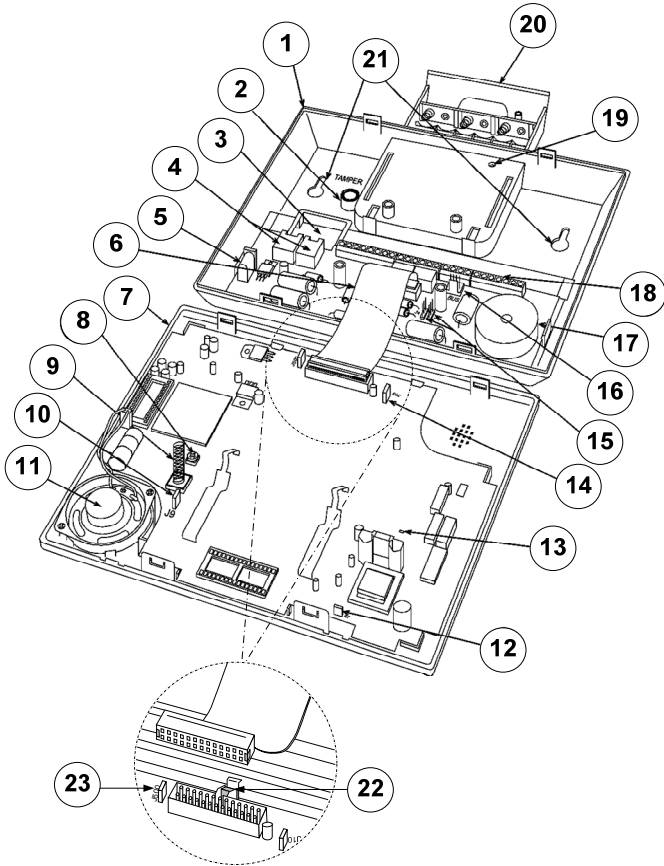

Figure 2-1: WisDom Internal components Layout
3. Pull the **WisDom** battery housing outward (See figure 2-1)
1. Connect the incoming telephone line to the **PHONE LINE** terminals or the optional plug-in jack RJ11 marked as U3 (see figure 2-1).
2. Connect any telephone on the premises to the **PHONE SET** terminals or the optional plug-in jack RJ31 marked as U2 - Line and Set (see figure 2-1).
The WisDom is equipped with a built-in sounder (see figure 2-1). If desired, an external bell or piezo sounder can be connected to alert occupants and neighbors with a loud sounder during an alarm.